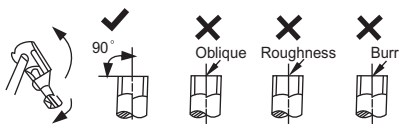

Fig. 28 — Cut the pipe
2. Cut the pipe, with a pipe cutter, at 90 degrees (see Fig. 28).